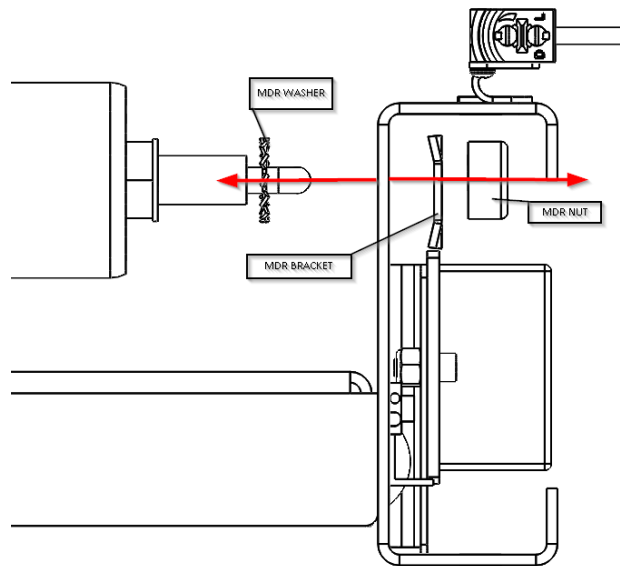

Figure 13: MDR Removal-1
4. Pull the MDR bracket away from the frame. (Refer to Figure 13)